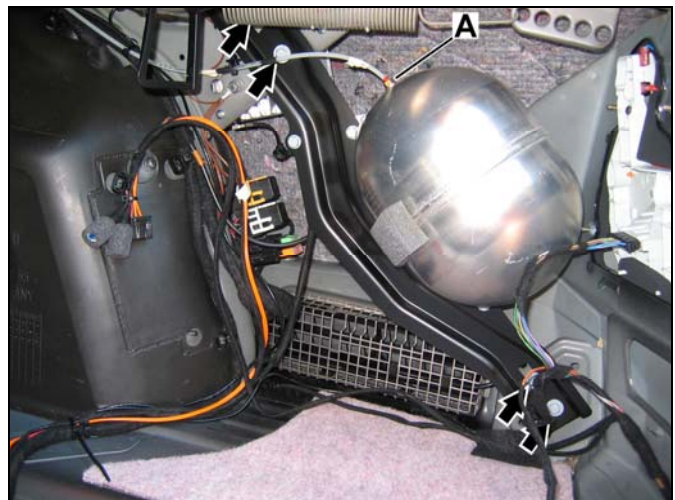

Figure 9
1. Remove the air reservoir bracket assembly by removing the four bolts (Arrows, Figure 9) securing the bracket.
2. Without disconnecting the air line (A, Figure 9), set aside the air reservoir bracket assembly to allow access to the exposed right side of the trunk.